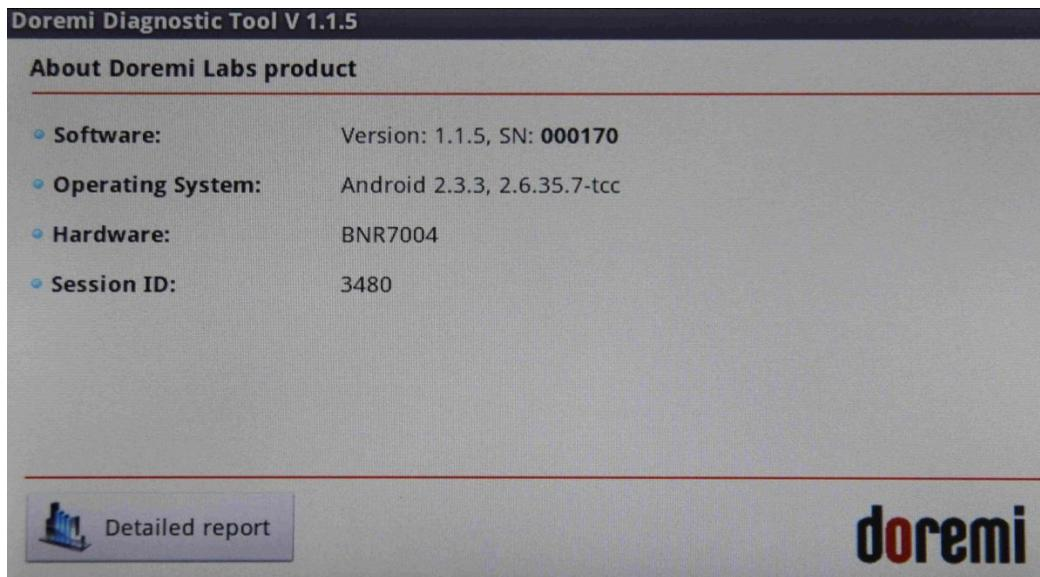

Figure 67: Detailed Report Button
- Next, press the Detailed Report icon that appears on the screen (Figure 67).